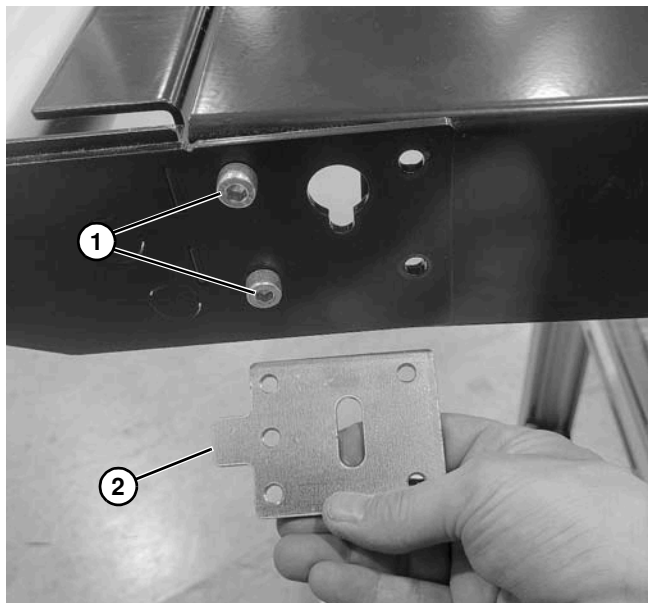

Figure 191
6. Continue to loosen two screws (**Figure 191, item 1**) and remove backing plate (**Figure 191, item 2**) on each side of conveyor.
7. Remove two screws (**Figure 191, item 1**) on each side of conveyor and remove drive spindle assembly. Place onto work surface.